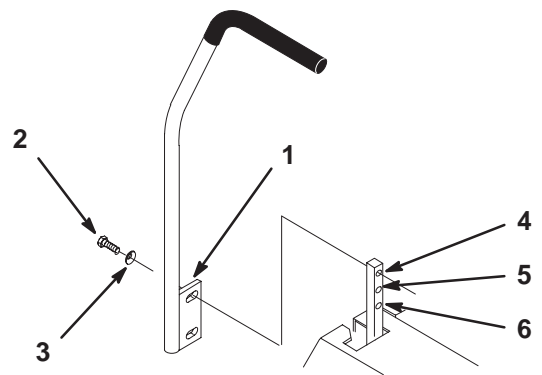

Figure 4
There are two positions to install the control levers, high and low. Install levers in the top and middle holes for the high position. Install levers in the middle and bottom holes for the low position (Fig. 4).
1. Remove the 4 bolts (3/8 x 1 inch) and 4 spring washers (3/8 inch) which attach the motion control levers to the control arm shafts for shipping (Fig. 4).
2. Place the levers (with the mounting plate toward the rear) on the outside of the control arm shaft and secure with 4 bolts (3/8 x 1 inch) and 4 spring washers (3/8 inch) (Fig. 4).
4. Align the front/rear position of the levers, with each other, in the neutral position. Loosen hardware and adjustment by sliding/tilting the lever(s) forward or backward until properly aligned (Fig. 4).